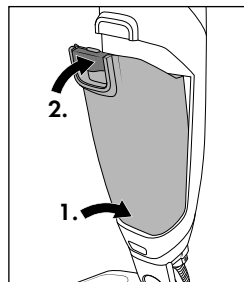

Fig. 15
- ◆ Push the dirt container **10** into the motor unit **8** until it clicks into place (see fig. 15).